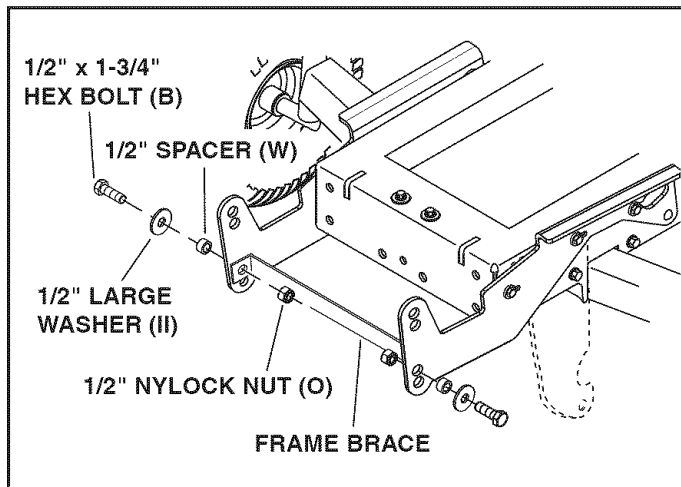

FIGURE 21
STEP 22: INSTALL FRAME BRACE (SEE FIGURE 21)
- Install the frame brace between the side plates using two 1/2" x 1-3/4" bolts (B), large 1/2" large washers (II), 1/2" spacers (W) and 1/2" nylock nuts (O). Fasten the brace to the second from bottom holes in the side plates. **Tighten.**
- **Tighten** 3/8" bolts (E) in side plates only until they are snug and the lock washers are flattened.